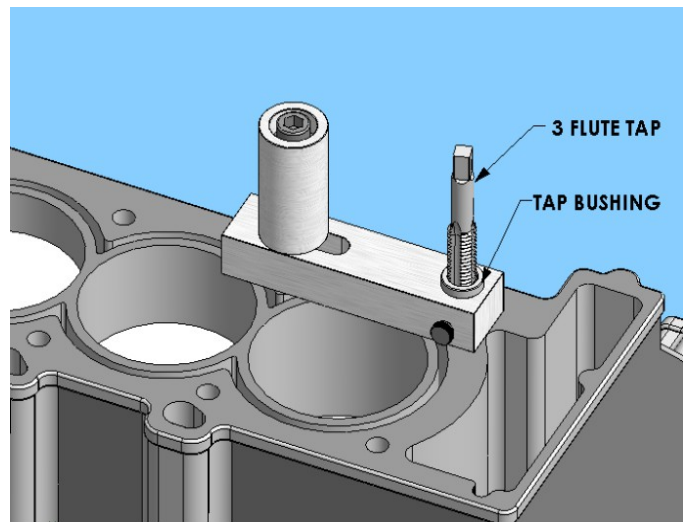

FIGURE 3A
5. **Figure 3A-** loosen the thumb screw and replace the Drill Bushing with the Tap Bushing. Using the 5/8-11 three-flute Plug Tap and TAP® MAGIC, thread the hole about 1½” deep. Then you can remove the jig. This will make it easier to clean out the chips when threading the remainder of the hole. You should back out the tap often and blow out the chips created by the tap so that the tap will not jam them into the bottom of the hole. Failure to do so could cause the tap to break.